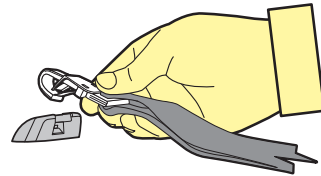

Figure 7
Step 5: Hook the attachment clip to the anchor fitting. **Ensure there are no twists in the top tether strap** (refer to Figure 7).
Step 6: Check the harness tightness by the **PINCH TEST**, this is achieved by pinching the harness webbing at the shoulders (refer Figure 7)